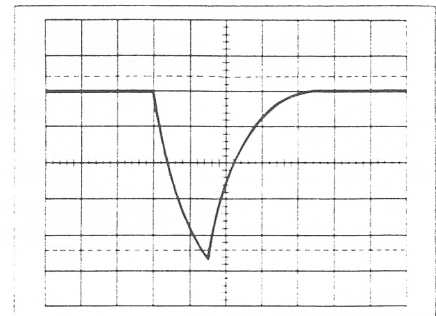

Fig. 5. Battery Back-Up Take-Over Time Measurement.
6. If POST TRIG/PRE TRIG was left disengaged, the event will be stored at roughly the center of the display, as shown in Fig. 5. Use the ◀▶ POSition control to adjust the initial cut-off to coincide with a major graticule line. You can then measure the distance in divisions between the point where power was cut off and the point where the battery back-up took over. Multiply this by the sweep TIME/DIV setting, and also by 1/10 if X10 horizontal magnification was used. For example, in Fig. 5, the